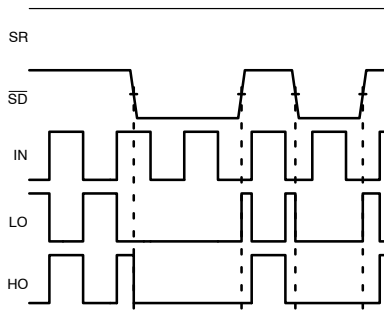

Figure 37. Shutdown with SR Pin Pulled Down SR Pin Pulled Up
11. Turn-off propagation applies to \overline{SD} pin. See Figure 37 for timing definitions.
Refer to Figure 37.